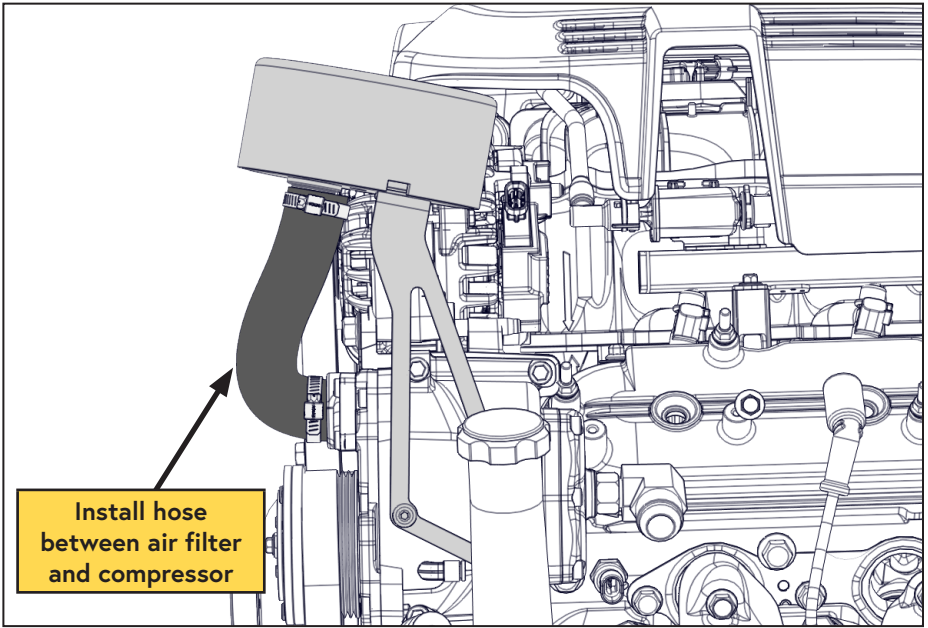

Figure 22 — Install air filter hose
- Install the hose between the air filter assembly and the compressor and secure with the supplied gear clamps (Figure 22).